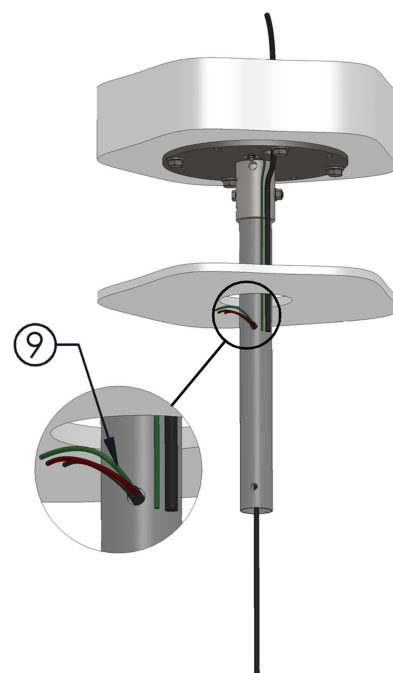

Fig. 9.0
9. Complete the reticulation of 24V power to the power supply mounting location as shown in Fig 9.0.